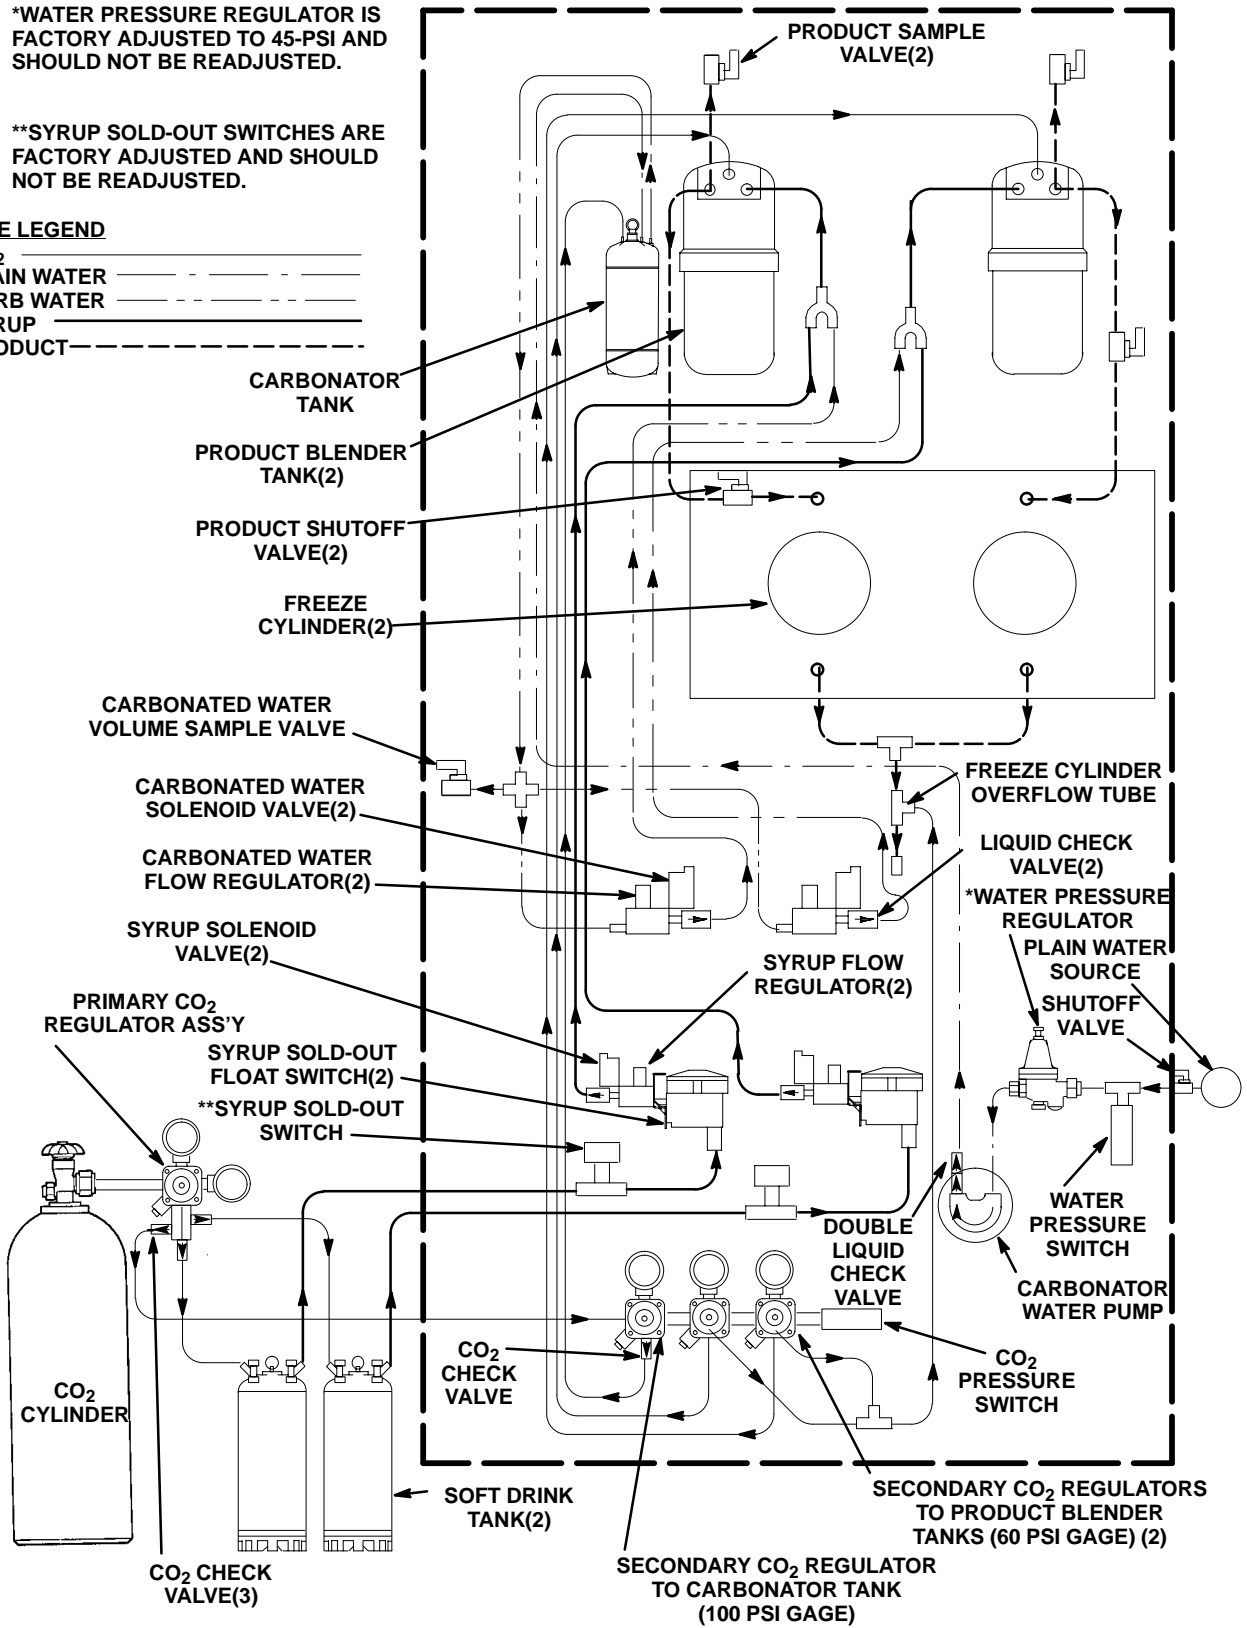

FIGURE 2. FLOW DIAGRAM
(see Figure 2)
1. Connect soft drink tanks CO₂ lines to primary CO₂ regulator manifold assembly as shown in Figure 2.
NOTE: The Units require connection to a city plain water source line with a minimum water pressure of 12-psig. IMI Cornelius Inc. recommends that a water shutoff valve and water filter be installed in the City plain water source line (see Figure 2). A Cornelius Water Filter (P/N 313860000) and Quick Disconnect Set (P/N 313867000) are recommended.